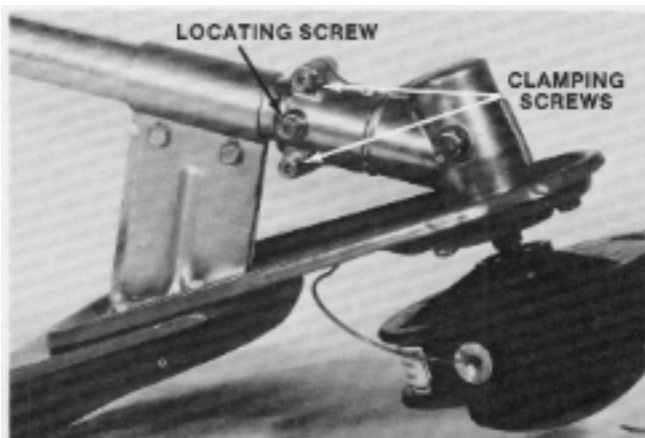

Figure 134
1. Remove the locating screw and loosen the two clamping screws on the cutter head gearbox. See Figure 134.